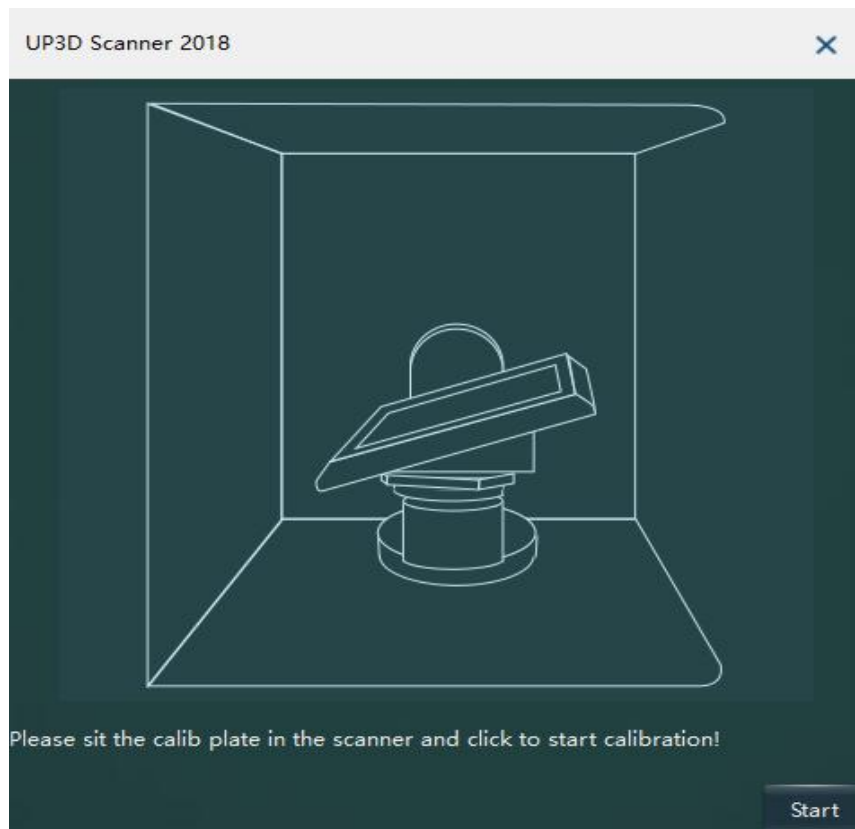

Figure 1-8 Calibration startup interface
(1) Double-click the 'UP3D Scan Calibration' shortcut or click the Calibrate scanner button at the dental manager interface to start the Calibration function.
(2) insert the calibration board and use the shading cloth. Click 'start' (figure 1-8) to enter the calibration interface